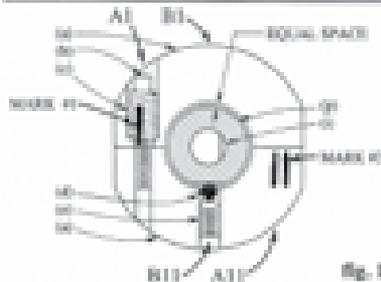

Fig. 1
STEP 1 First remove the existing brakes from your car and clean the area if necessary. Then, as shown at point "A" in fig. 1, glue one of the thin brake linings (b) to the steel shoe (a) using contact cement, such as 3M #8001. Do not make the glue joint too thick.
STEP 4 Now slide the two steel brake rotors (j) between the brake shoes from the forward side (figs. 1 and 3). When the rotors are between the linings, they should be free to turn, NOT TIGHT. If the rotors are tight in the lining, your glue joint may be too thick. Simply remove the linings and sand the two thin linings (b, d) to make them a little thinner. DO NOT sand the thick lining. Then recheck the rotors to see if they're free.
STEP 1 Take the two clutch shoe half-cam and lightly abrade the three outside holes in each shoe with an Emery ball. Now hold the two clutch shoes together, as in Fig. 1, and take
STEP 2 From the corner hole of the clutch shoes, slip the two steel balls (f) over their holes, as shown in fig. 1. Now slip the corner ball (g) into the corner hole. Load the two set screws (e) so they clamp down on the balls. Do not over-tighten. The adjustment of these balls is very important and determine whether you will have a good, strong shift or a weak shift. Move the set screws in until they barely start to push the balls against the two grooves in the corner hole.
The ball-to-ball fit should be exactly centered with an equal space around the corner ball and between the clutch shoes, as shown in fig. 1.
STEP 3 Now slip the steel cover (q) over the corner ball (g) as shown in fig. 1. Align the hole in the steel cover to match the hole in the ball and start the allen set screw in the hole. It is important to put a number 1 mark on the steel cover when shown in fig. 1. This number 1 should be marked exactly where the spring is, as shown. Now put #11 mark on the cover where the second spring is.